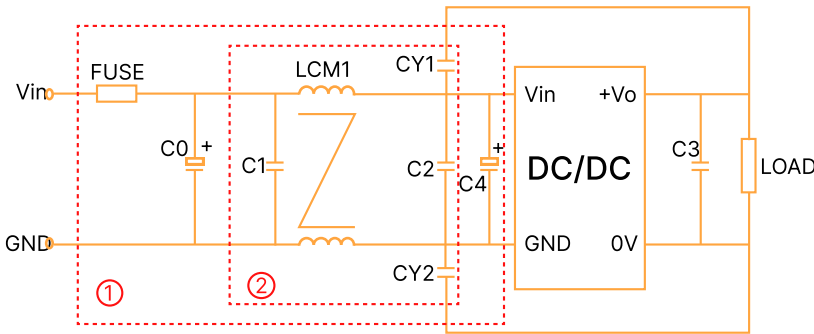

Figure 4: EMC compliance circuit
① in Fig. 4 for Immunity test and part ② for Emissions test. Select based on needs.